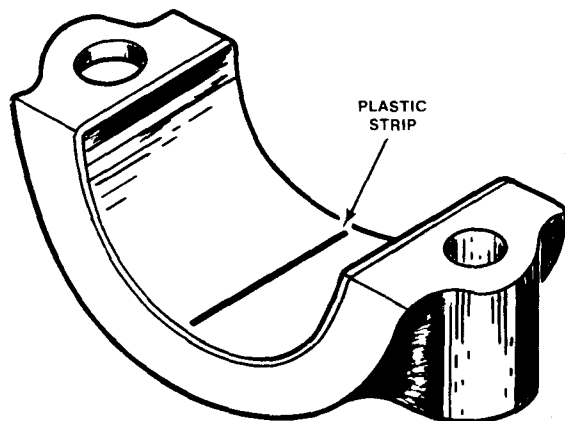

FIG. 14 Installing Plastic Gauging Material in Bearing Insert
2. Place a piece of plastic gauging material as wide as the bearing cap on the lower bearing insert parallel to the crankshaft centerline and approximately 1/4 in. (6mm) off center (Fig. 14).